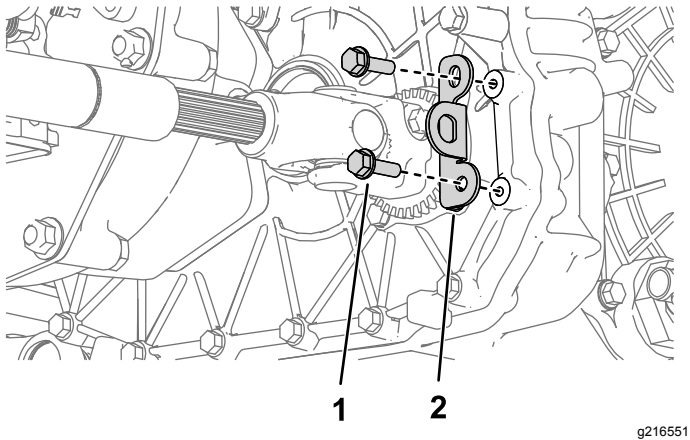

Figure 3
6. Install the sensor bracket to the outer edge of the sensor ring, using the existing bolts on the transaxle (Figure 3).